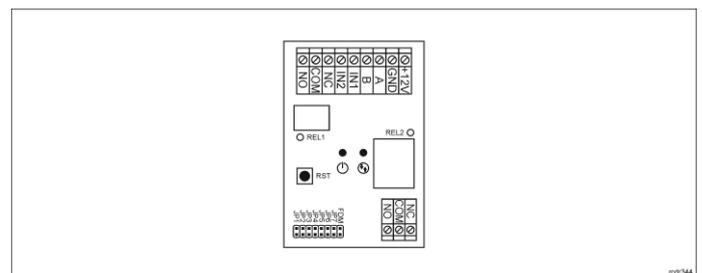

Fig. 4 MCX2-BRD expander
Note: Remote configuration of device from VISO v2 software is possible only if jumper is placed on JP7 contacts (fig. 4/5). If the jumper is removed then such configuration is blocked. In case of factory new device, jumper is placed on JP7 contacts.
In RACS 5 v2 system the expander can be installed at site without previous configuration. According to AN006 application note, its address and other settings can be configured from VISO v2 management software and during such configuration the access to its service contacts (fig. 4/5) is not required.
2. Remove jumper from JP7 contacts (fig. 4/5) if it is placed there.
2. Place jumper on FDM contacts (fig. 4/5).